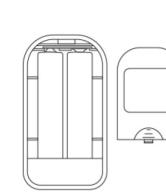

Figure 3 Batteries installation
Step 1. Refer to Figure 3, and insert the two AAA size batteries properly in the right direction.